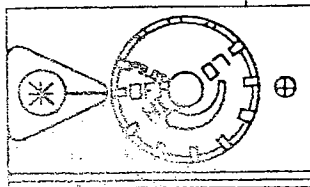

Figure 7
3. Single: Turn control knob clockwise  to the OFF position (see Figure 7).